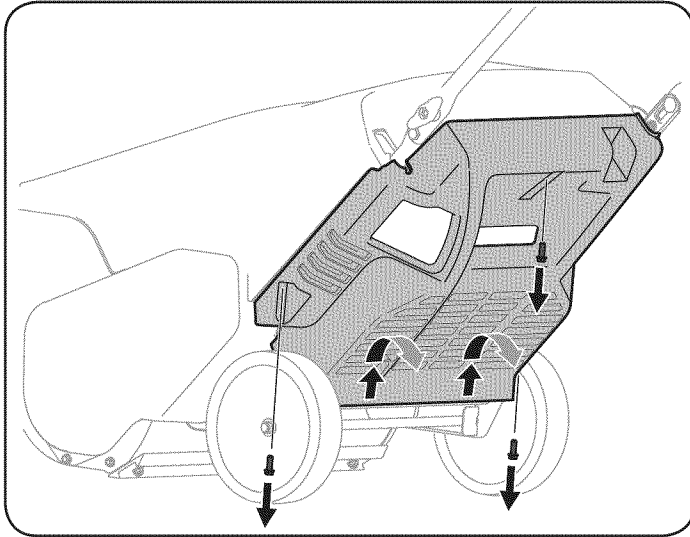

Figure 13
- Remove the three screws that secure the lower panel. Remove the lower panel by lifting up on the panel to free the tabs at the bottom of the panel from the tab slots and then pull back. See Figure 13.
- Remove the lower panel as instructed in the Changing Engine Oil section. Refer to Figure 13.